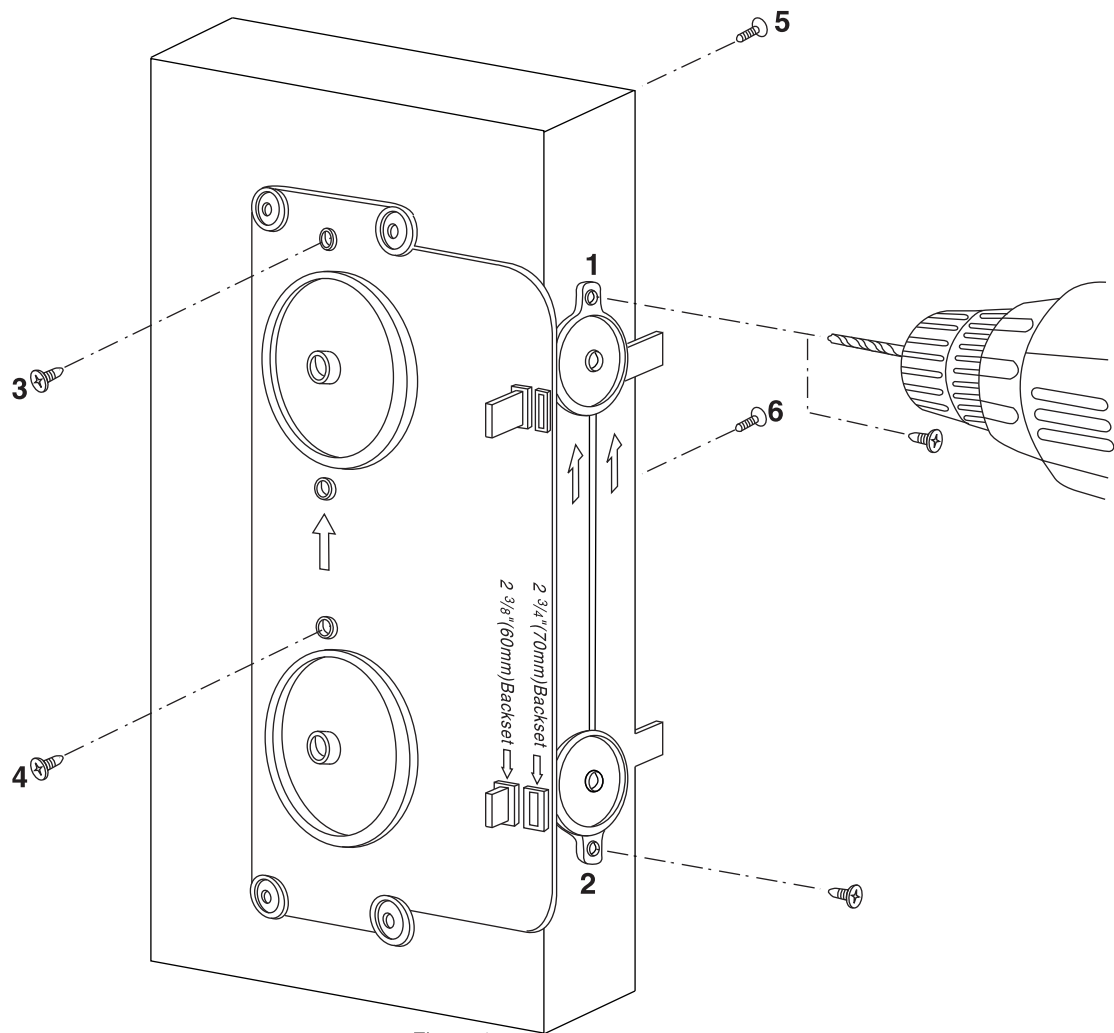

Figure 1
- Use 1/8" drill to drill as marked on 1~2. Secure with 4mm Wood Screws into the door (Figure 1).